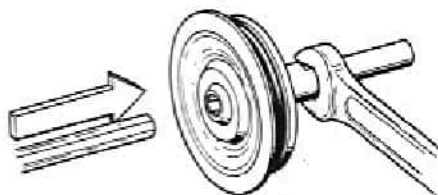

Fig. 7 - Piston Diaphragm Removal
27. Remove the O-ring(19) and backup ring(18) from inside the high pressure chamber of the body with the use of a brass or plastic O-ring removal tool. Discard both items and set the body aside.
28. Apply a 6mm open end wrench to the flat portion of the piston shaft beneath the piston head to hold the piston secure and elevated. Apply a 4mm hex key to the diaphragm retainer(12), and turn counter-clockwise to loosen and remove the diaphragm retainer and diaphragm(13) from the piston head (see Fig. 7).